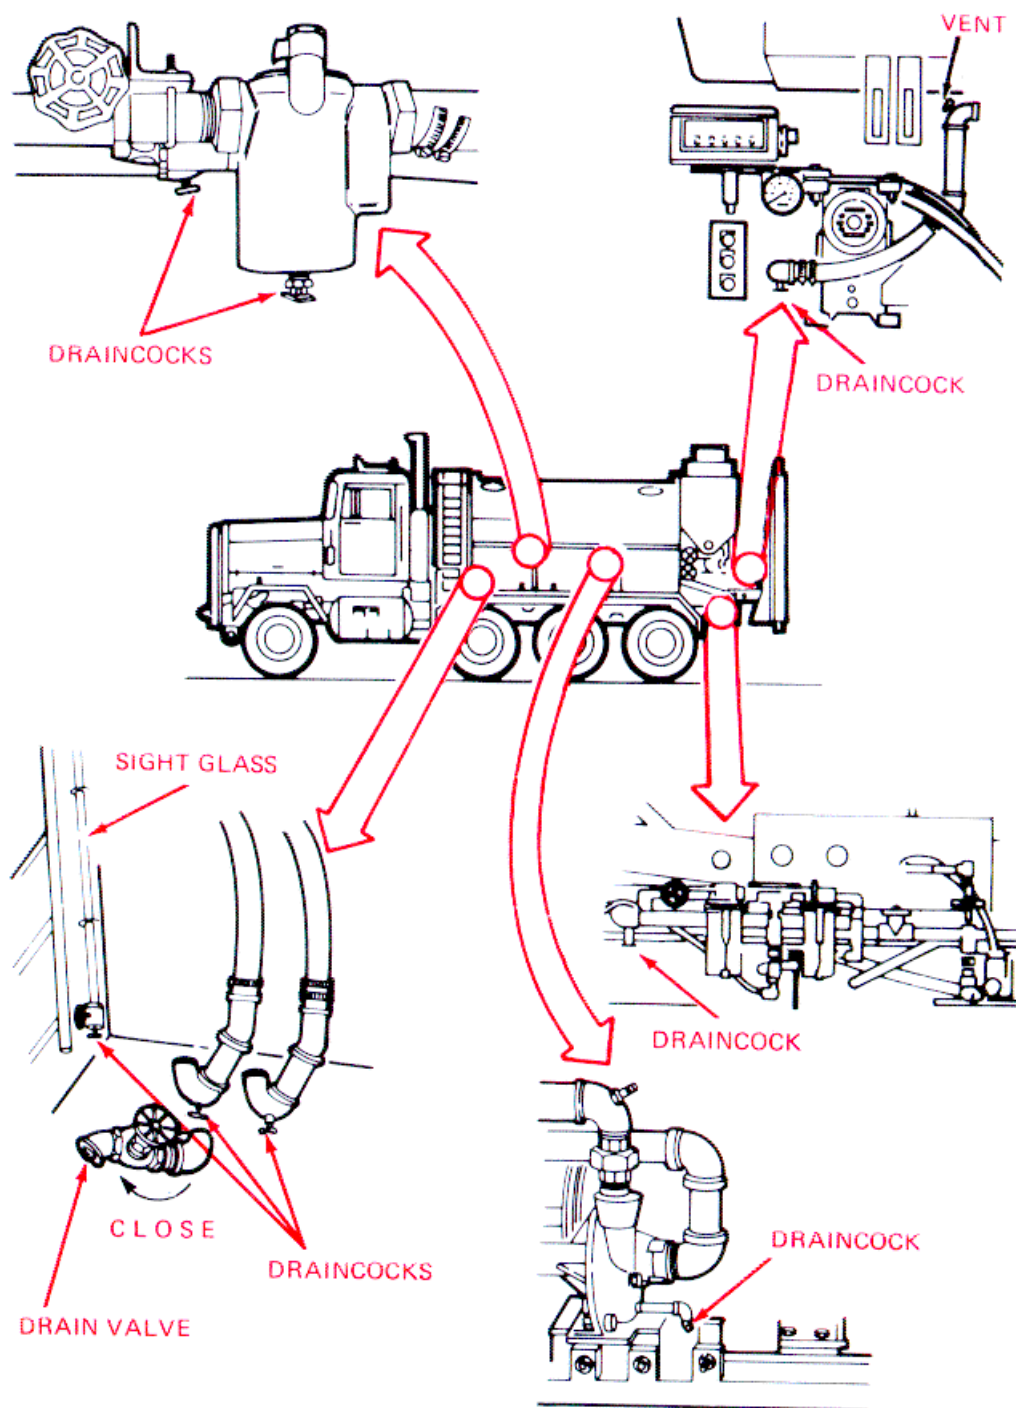

Figure 2-14. Water Drain, Draincocks, and Vents.
- b. Check that the drain valve is turned all the way clockwise. Be sure that the eight draincocks and the vents are closed (fig. 2-14).